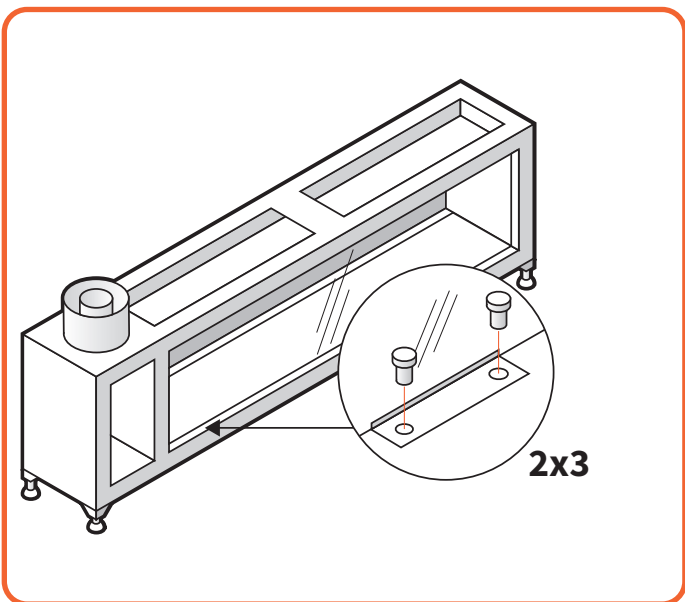

Figure 10.4 - Remove Glass clamps
- Remove the glass clamps. (See **Figure 10.4**)